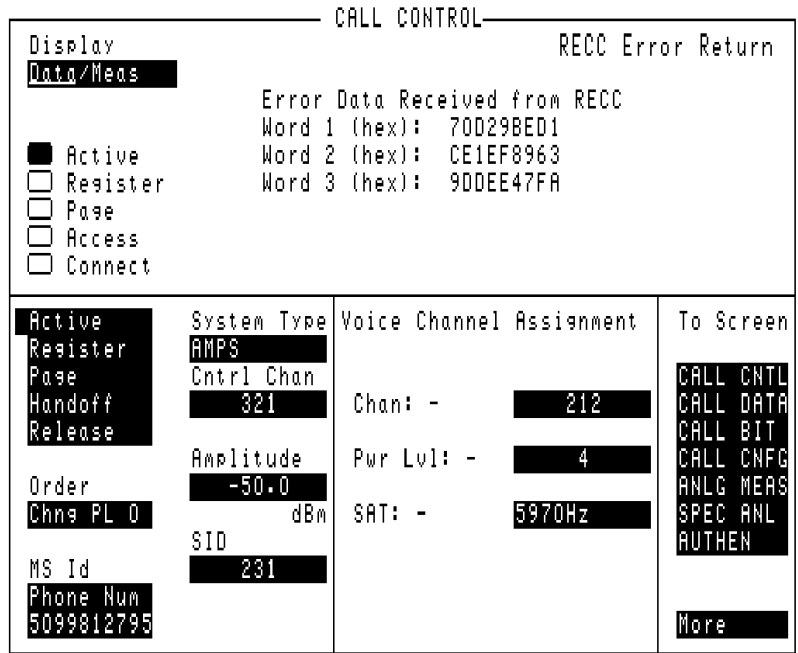

Figure 19 CALL CONTROL Screen with Decoding Error Message Display
- Select **Data** to display information received from the mobile station on the reverse control channel or reverse voice channel. If the data message(s) received from the mobile station can be correctly decoded, the decoded message contents are displayed. If the data messages cannot be correctly decoded, the raw data message bits are displayed in hexadecimal format. **Figure 19 on page 128** shows the layout of the CALL CONTROL screen when a decoding error has occurred.